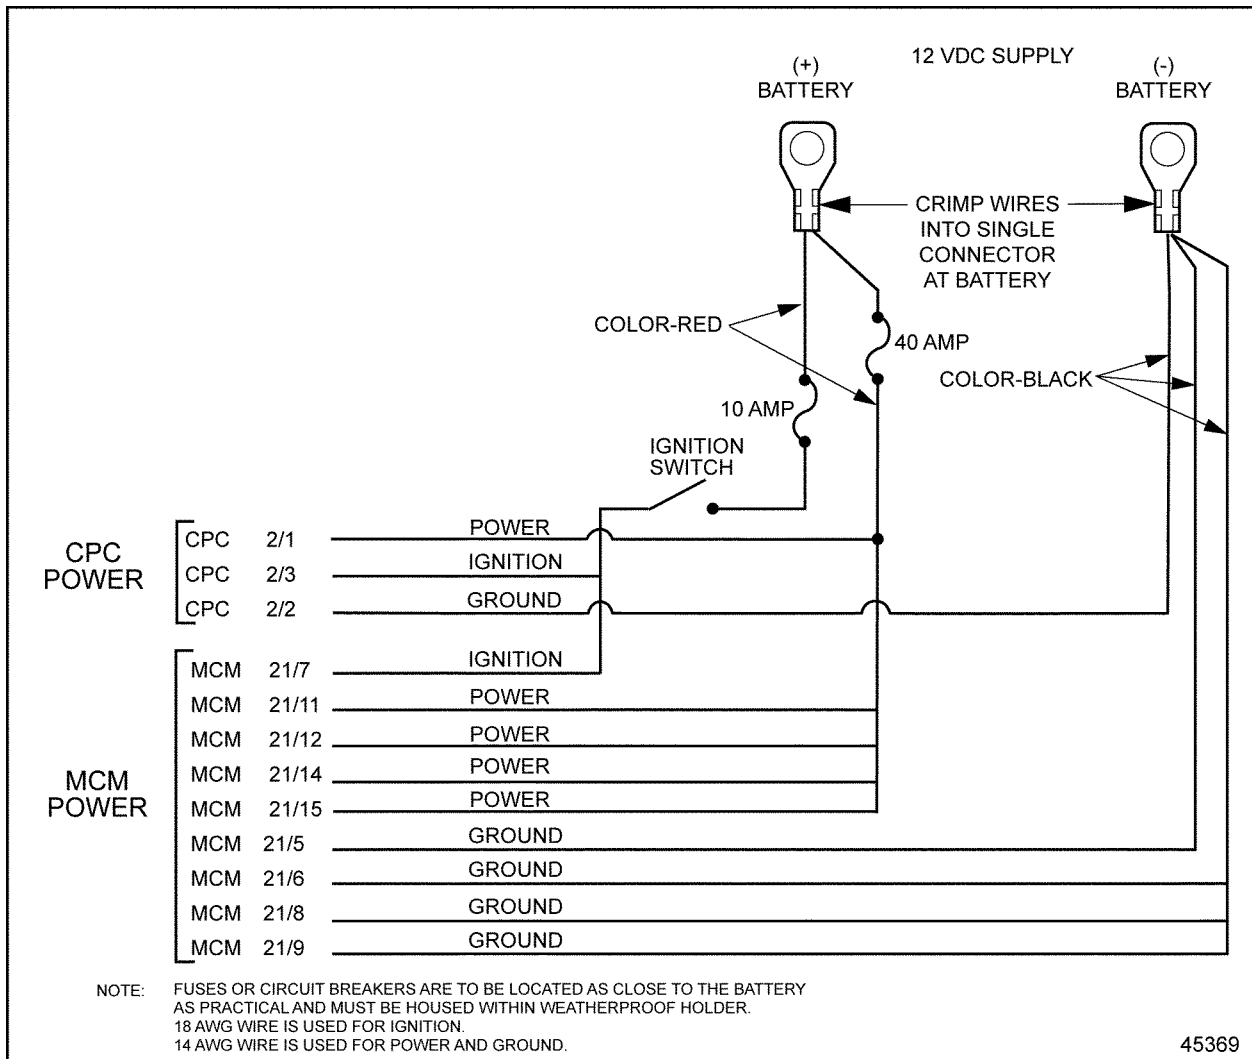

Figure 32-1 Power Wiring
1. Measure the resistance of the individual wires in the ground circuit (MCM 21/5, 21/6, 21/8, 21/9 and CPC 2/2). See Figure 32-1.
2. Measure the resistance of the individual wires in the power circuit (MCM 21/11, 21/12, 21/14, 21/15 and CPC 2/1) with the engine running and battery voltage greater than 12.5 V. See Figure 32-1.
3. Measure the current drop of the individual wires in the ground circuit (MCM 21/5, 21/6, 21/8, 21/9 and CPC 2/2). See Figure 32-1.
4. Measure the current drop of the individual wires in the power circuit (MCM 21/11, 21/12, 21/14, 21/15 and CPC 2/1). See Figure 32-1